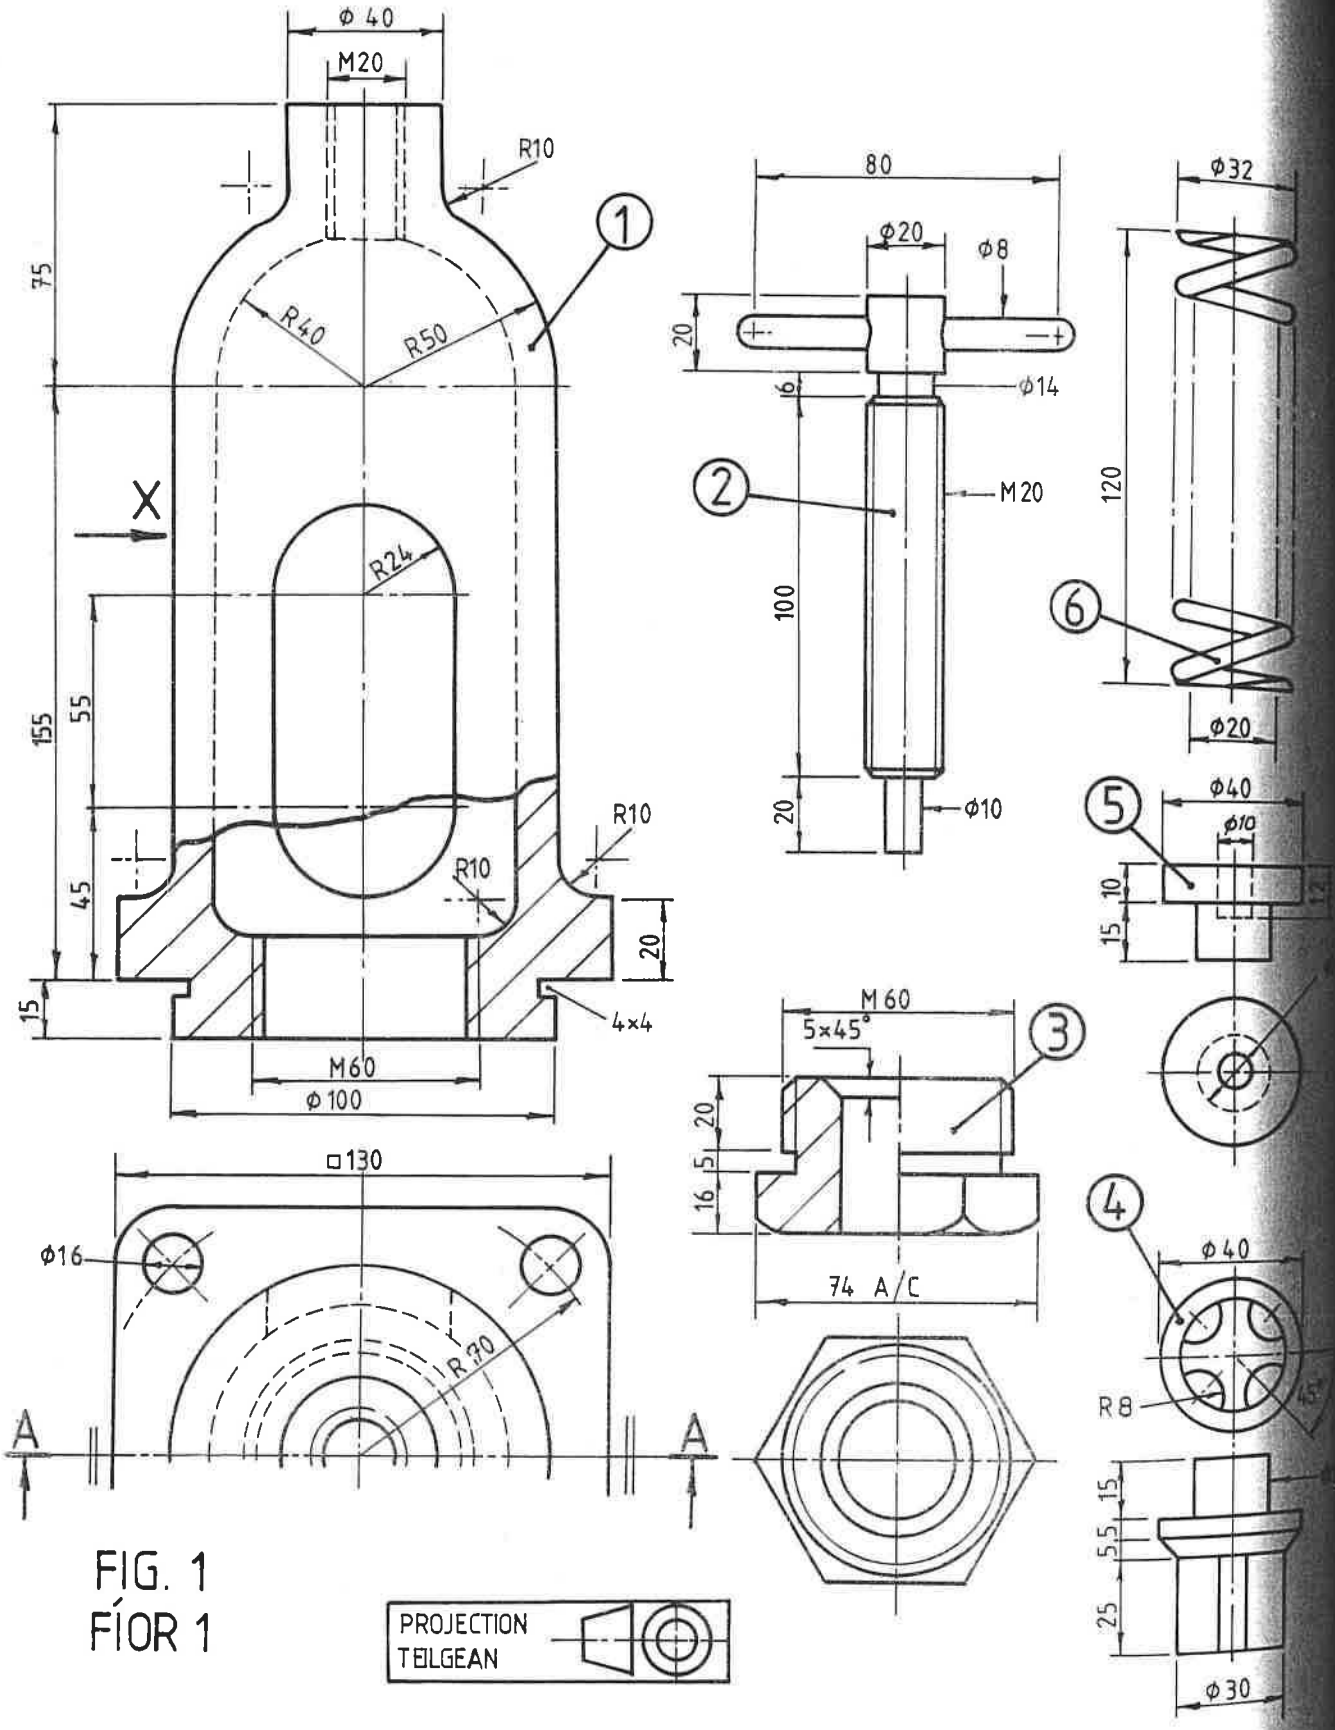

FIG. 1
1. Details of a Relief Valve assembly are given in Fig. 1, with the parts list tabulated below.